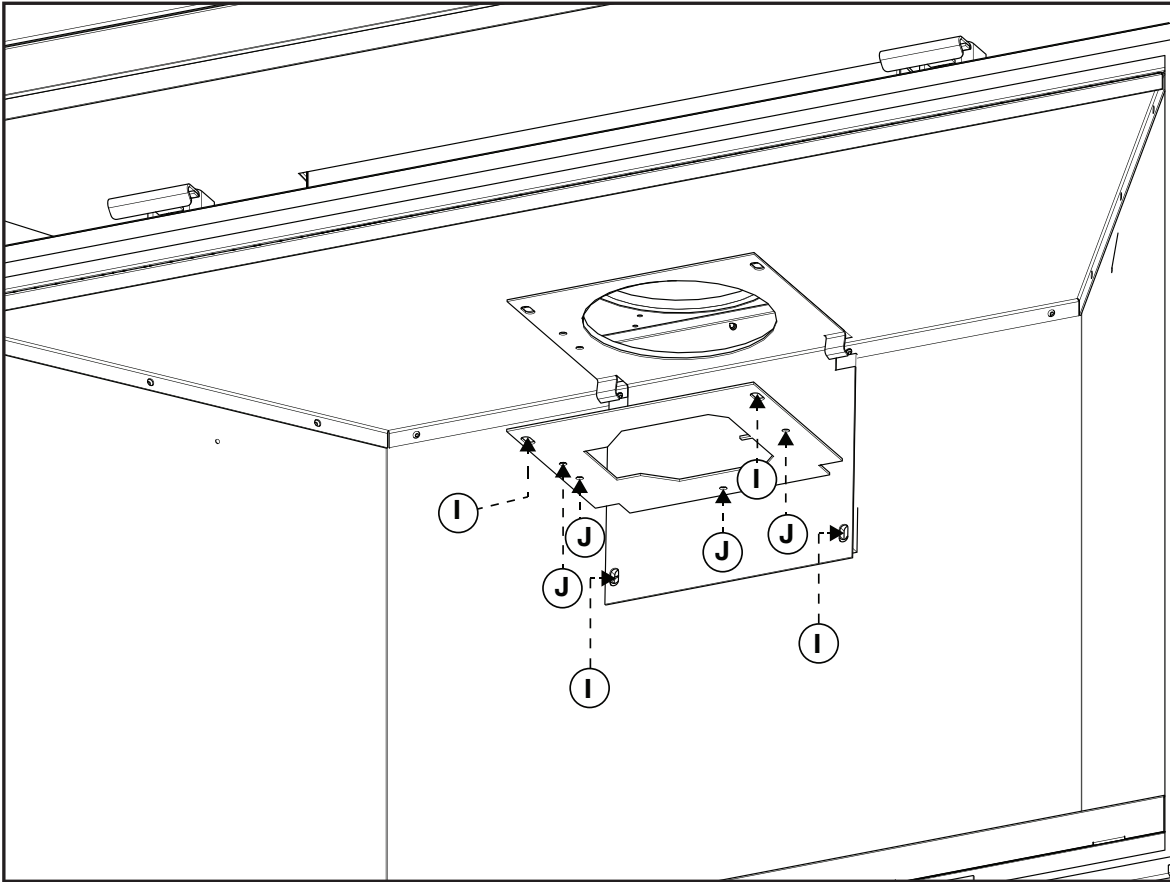

Fig. 3
- I. From inside the firebox, install the 5" (127mm) exhaust collar with gasket and the exhaust outlet reducer plate up through the top of the firebox, and secure with the the 4 hex head 3/4" black screws supplied in the manual baggie (Fig. 3).
- J. Fully secure exhaust outlet reducer using 4 self-tapping screws (supplied) (Fig. 3).